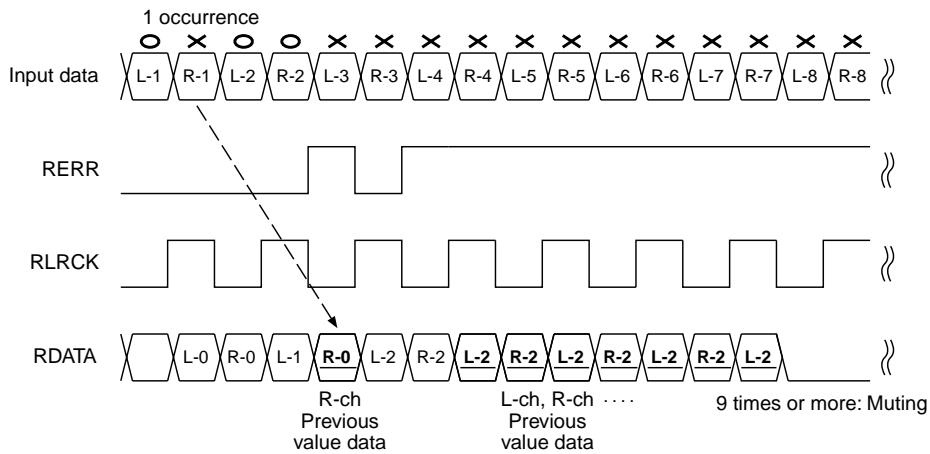

Figure 8.11. Data Processing upon Parity Error Occurrence
- Figure 8.11 shows an example of data processing upon occurrence of a parity error.